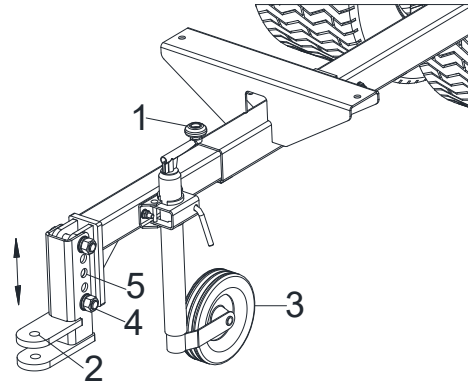
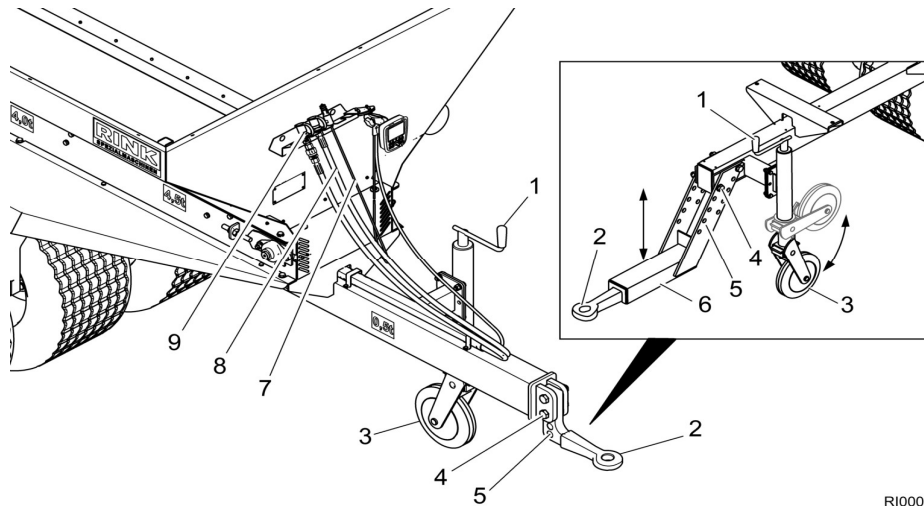
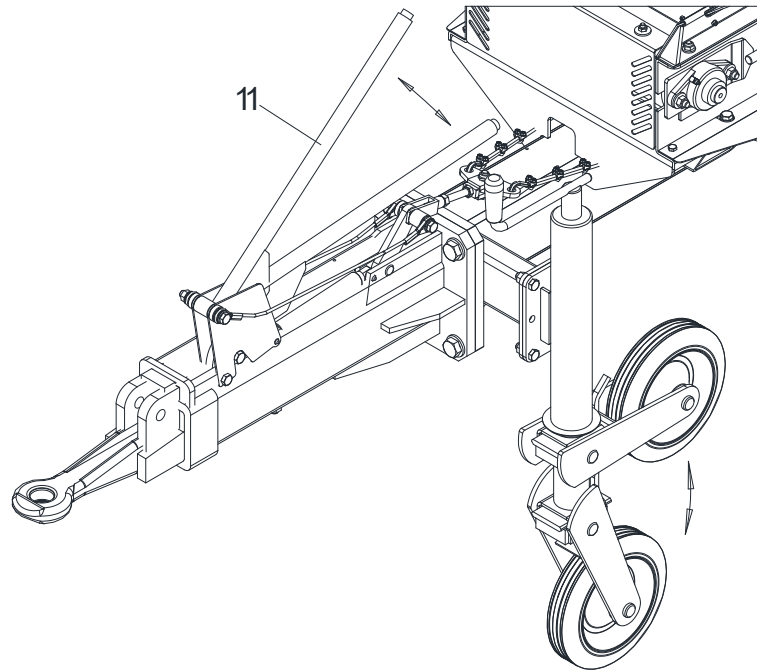

Fig. 23 Connections DS1200
Fig. 24 Connections DS1600, DS3100
Fig. 25 Connections DS1600, DS3100
2. If the trailer hitch and the drawbar (Fig. 23/2) are not at the same height the drawbar can be adjusted in height using the bolted connections (Fig. 23/4) and the offset holes (Fig. 23/5).
4. Attach the drawbar (Fig. 23/2) to the trailer hitch of the towing vehicle, refer to the operating instructions of the towing vehicle.
5. Connect the hydraulic lines to the towing vehicle. To do this, connect the feed line (Fig. 24/8) and return line (Fig. 24/9) of the disc spreader to the respective hydraulic connections of the towing vehicle.
6. Connect the electrical cable ((Fig. 24/7) to the towing vehicle.
7. Set the jockey wheel (Fig. 23/3) to the uppermost position. To do this, raise the jockey wheel axle completely with the crank (Fig. 23/1).
2. If the trailer hitch and the angled drawbar eye (Fig. 24/2) are not at the same height, the angled drawbar eye can be adjusted in height or even rotated by 90° using the bolted connections (Fig. 24/4) and the offset holes (Fig. 24/5).
4. Connect the hydraulic lines to the towing vehicle. To do this, connect the feed line (Fig. 24/8) and return line (Fig. 24/9) of the disc spreader to the respective hydraulic connections of the towing vehicle.
5. Connect the electrical cable (Fig. 24/7) to the towing vehicle.
6. Set the jockey wheel (Fig. 24/3) to the uppermost position. To do this, raise the jockey wheel axle completely with the crank (Fig. 24/1).
2. If the trailer hitch and the drawbar eye (Fig. 24/2) are not at the same height, the downward-cranked part of the drawbar with angled drawbar eye can be adjusted in height using the bolted connections (Fig. 24/4) and the offset holes (Fig. 24/5).
4. Attach the drawbar eye (Fig. 24/2) to the trailer hitch of the towing vehicle, refer to the operating instructions of the towing vehicle.
6. Connect the electrical cable (Fig. 24/7) to the towing vehicle.
7. Set the jockey wheel (Fig. 24/3) to the uppermost position. To do this, raise the jockey wheel axle completely with the crank (Fig. 24/1).
3. Connect the hydraulic lines to the towing vehicle. To do this, connect the feed line (Fig. 24/8) and return line (Fig. 24/9) of the disc spreader to the respective hydraulic connections of the towing vehicle.
4. Connect the electrical cable (Fig. 24/7) to the towing vehicle.
5. Set the jockey wheel (Fig. 24/3) to the uppermost position. To do this, raise the jockey wheel axle completely with the crank (Fig. 24/1).
6. To drive, release the brake (Fig. 25/11)
1. Set the jockey wheel (Fig. 23/3), (Fig. 24/3) to the lowest position. To do this, lower the jockey wheel axle completely with the crank Fig. 23/1), (Fig. 24/1).
2. Tighten the brake of the overrun brake system (Fig. 25/11)
3. Disconnect the electrical cable (Fig. 24/7) from the towing vehicle and remove it.
4. Detach the feed line (Fig. 24/8) and return line (Fig. 24/9) from the towing vehicle and remove them.
5. Detach the angled drawbar eye (Fig. 23/2), (Fig. 24/2), (Fig. 25) from the trailer hitch of the towing vehicle, refer to the operating instructions of the towing vehicle.